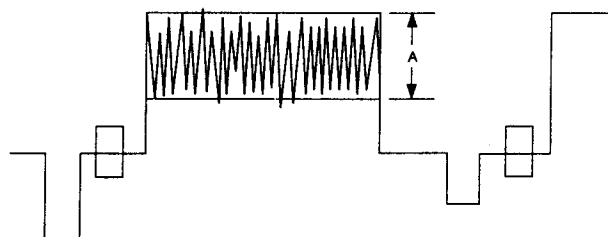

Figure 7
- 3) Adjust L251 until the amplitude A of the red signal is the minimum (See Fig. 7)